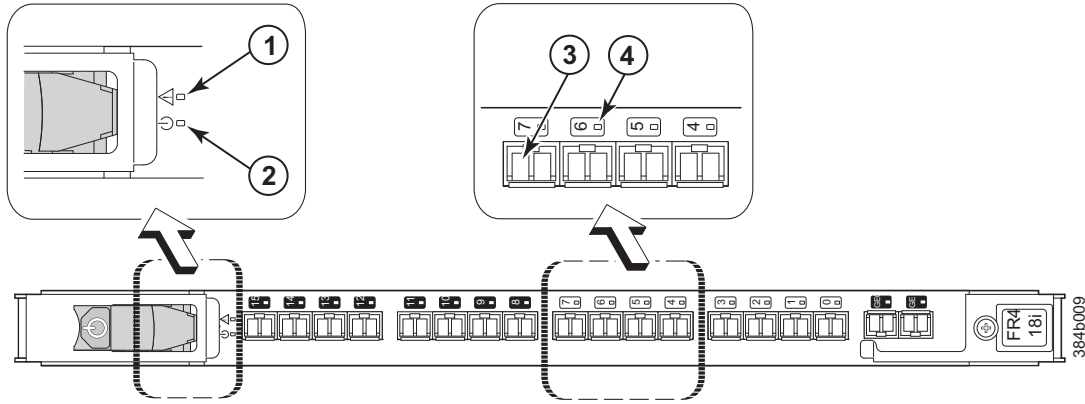

Figure 23. FR4-18i routing blade
- Figure 23 on page 49 illustrates the FR4-18i routing blade